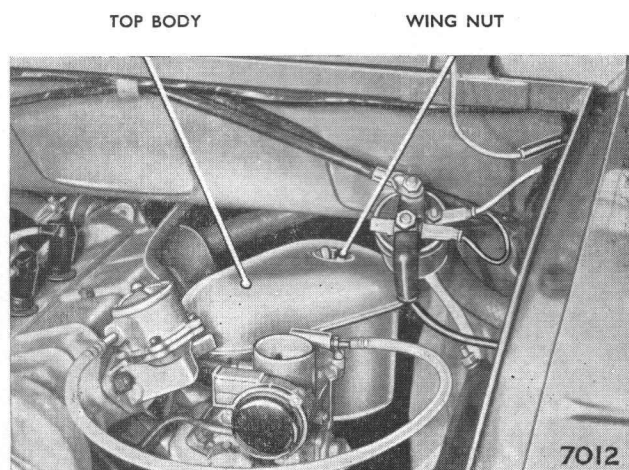

Fig. 21. Position for removing and replacing air cleaner upper body
3. Lift cleaner upper body off the carburettor and turn it to the position shown in Fig. 21. This will give easy access to the wing nut securing the upper body. Remove wing nut and upper body.